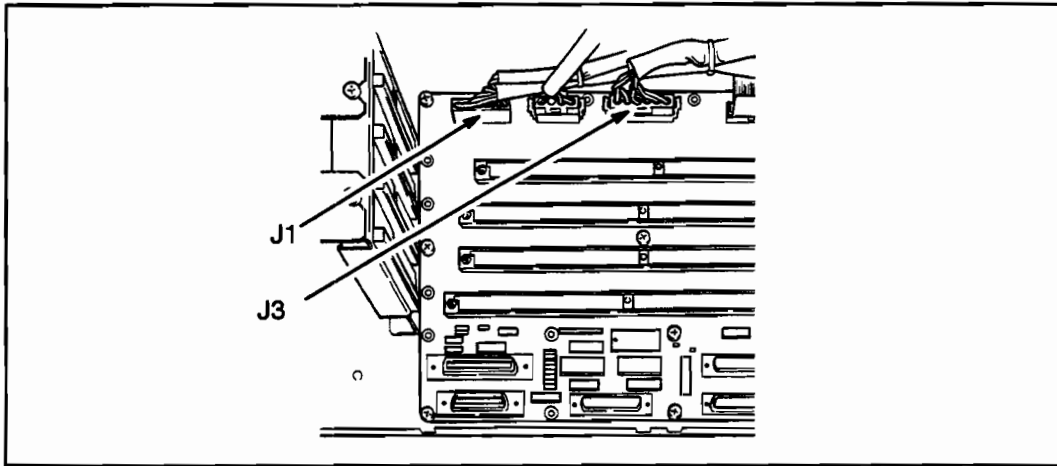

Figure 6-98. J1 and J3 Connectors
4. Reach into the back of the VRC and disconnect J1 and J3 connectors from the main interconnect PCA and release the cable from the tie located on the right side. See Figure 6-98.